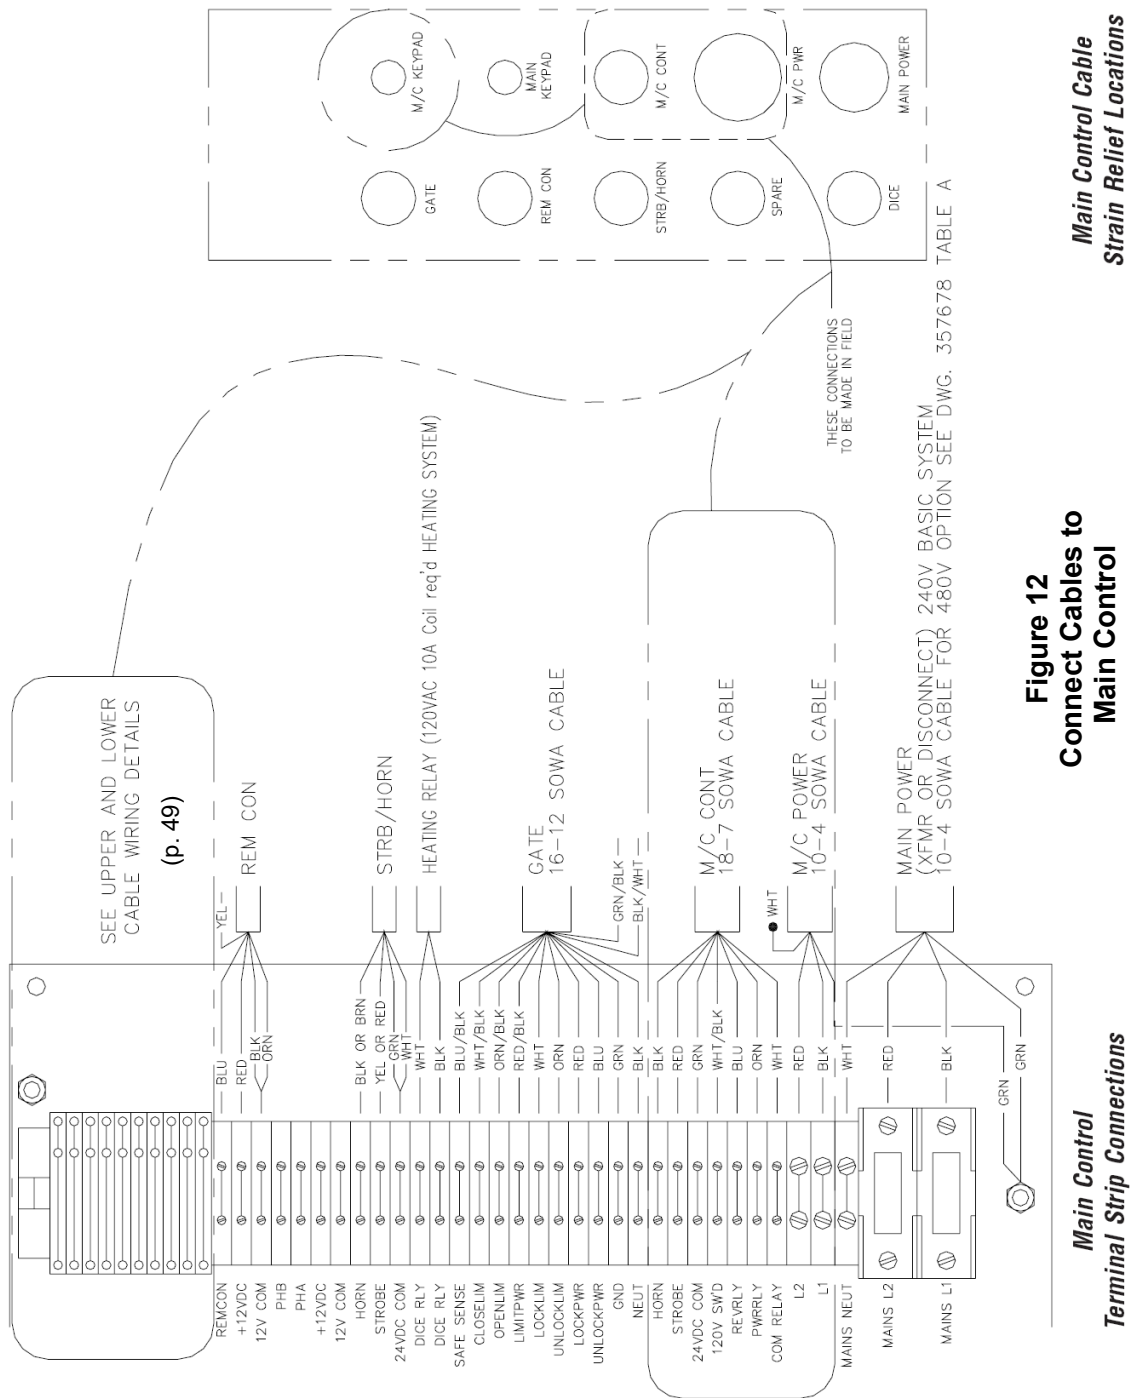

Figure 12
2) Connect the control cables to the main control (Figure 12).